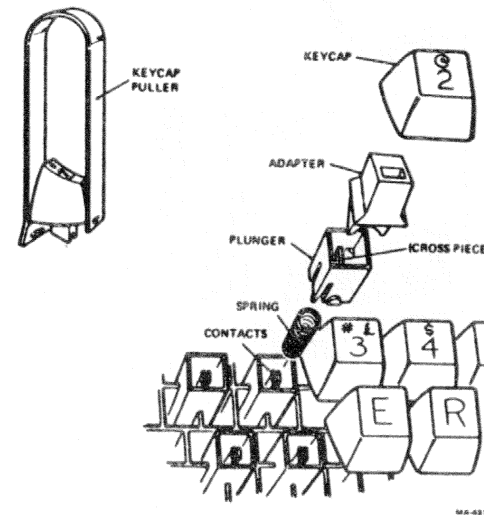

Figure 5-11 Keycap Removal
2. Starting at the upper left corner of the keyboard, insert the keycap puller between the first cap to be replaced and the adjacent keycap (Figure 5-11).
3. Squeeze the puller legs around the cap and slowly pull straight up to remove keycap (Figure 5-11).
4. If the adapter does not come off with the keycap (Figure 5-11), carefully remove adapter with long nose pliers. Reinstall adapter in the keycap, making sure the pointed end faces the front of cap.
5. In a very few cases the plunger may also come off. If so, take care to prevent the spring from flying out. Referring to Figure 5-11, replace the plunger and spring as follows.